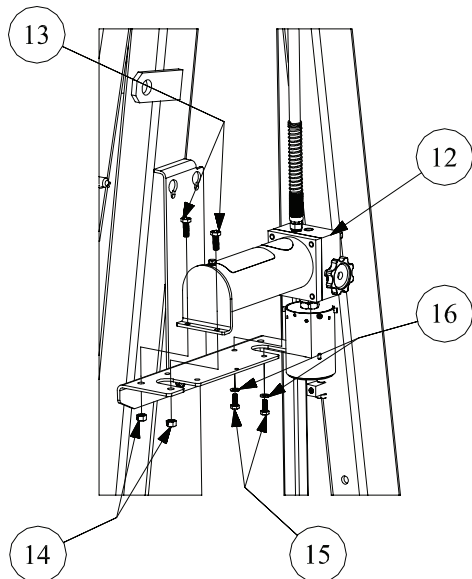

Figure 5
2. Mount the air pump [#12] to the pump bracket [#11] as shown in Figure 5. Use two 3/8" x 1" bolts [#13] and 3/8" nuts [#14] to secure the reservoir end of the air pump [#12]. The opposite end of the air pump [#12] is attached to the pump bracket [#11] using two 5/16" x 3/4" bolts [#15] and two 5/16" lock washers [#16]. The 5/16" x 3/4" bolts [#15] thread into tapped holes in the air pump [#12].